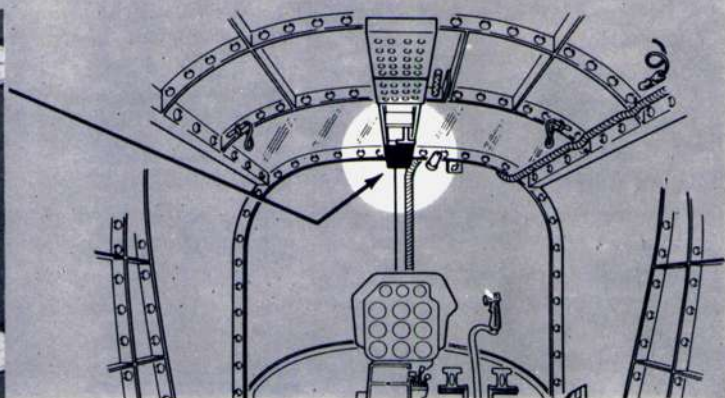

Figure 4-17
**Description.** Provisions are made for installing this equipment, which provides automatic visual bearing indication of an incoming signal and aural reception of amplitude-modulated signal. The equipment operates within the frequency range of 190 to 1750 kilocycles. This frequency range is divided into the following three frequency bands; 190 to 400, 400 to 840, and 840 to 1750 kilocycles. Remote control of this equipment is provided by a control panel (see figure 4-17) mounted approximately in the center of the cabin ceiling. When the OFF-VOL knob is turned clockwise, power to operate the equipment is supplied from the secondary d-c bus through the ARN-59 circuit breaker on the overhead circuit breaker panel (see figure 1-23). The MC BAND switch is used to select the frequency band, and the tuning crank selects the operating frequency within that band. The COMP-ANT-LOOP switch is used to select the desired mode of operation. The COMP